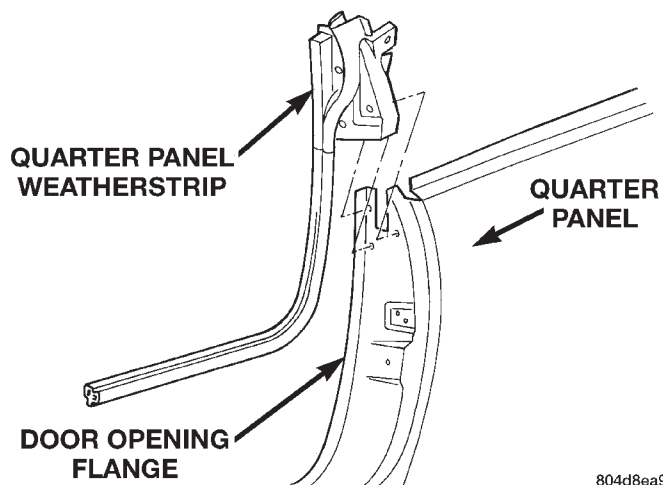

Fig. 42 Quarter Panel Weatherstrip
- (1) Remove door sill trim panel.
- (2) Remove push-in fasteners holding weatherstrip to B-pillar.
- (3) Remove weatherstrip from door opening flange.
- (4) Separate quarter panel weatherstrip from vehicle (Fig. 42).